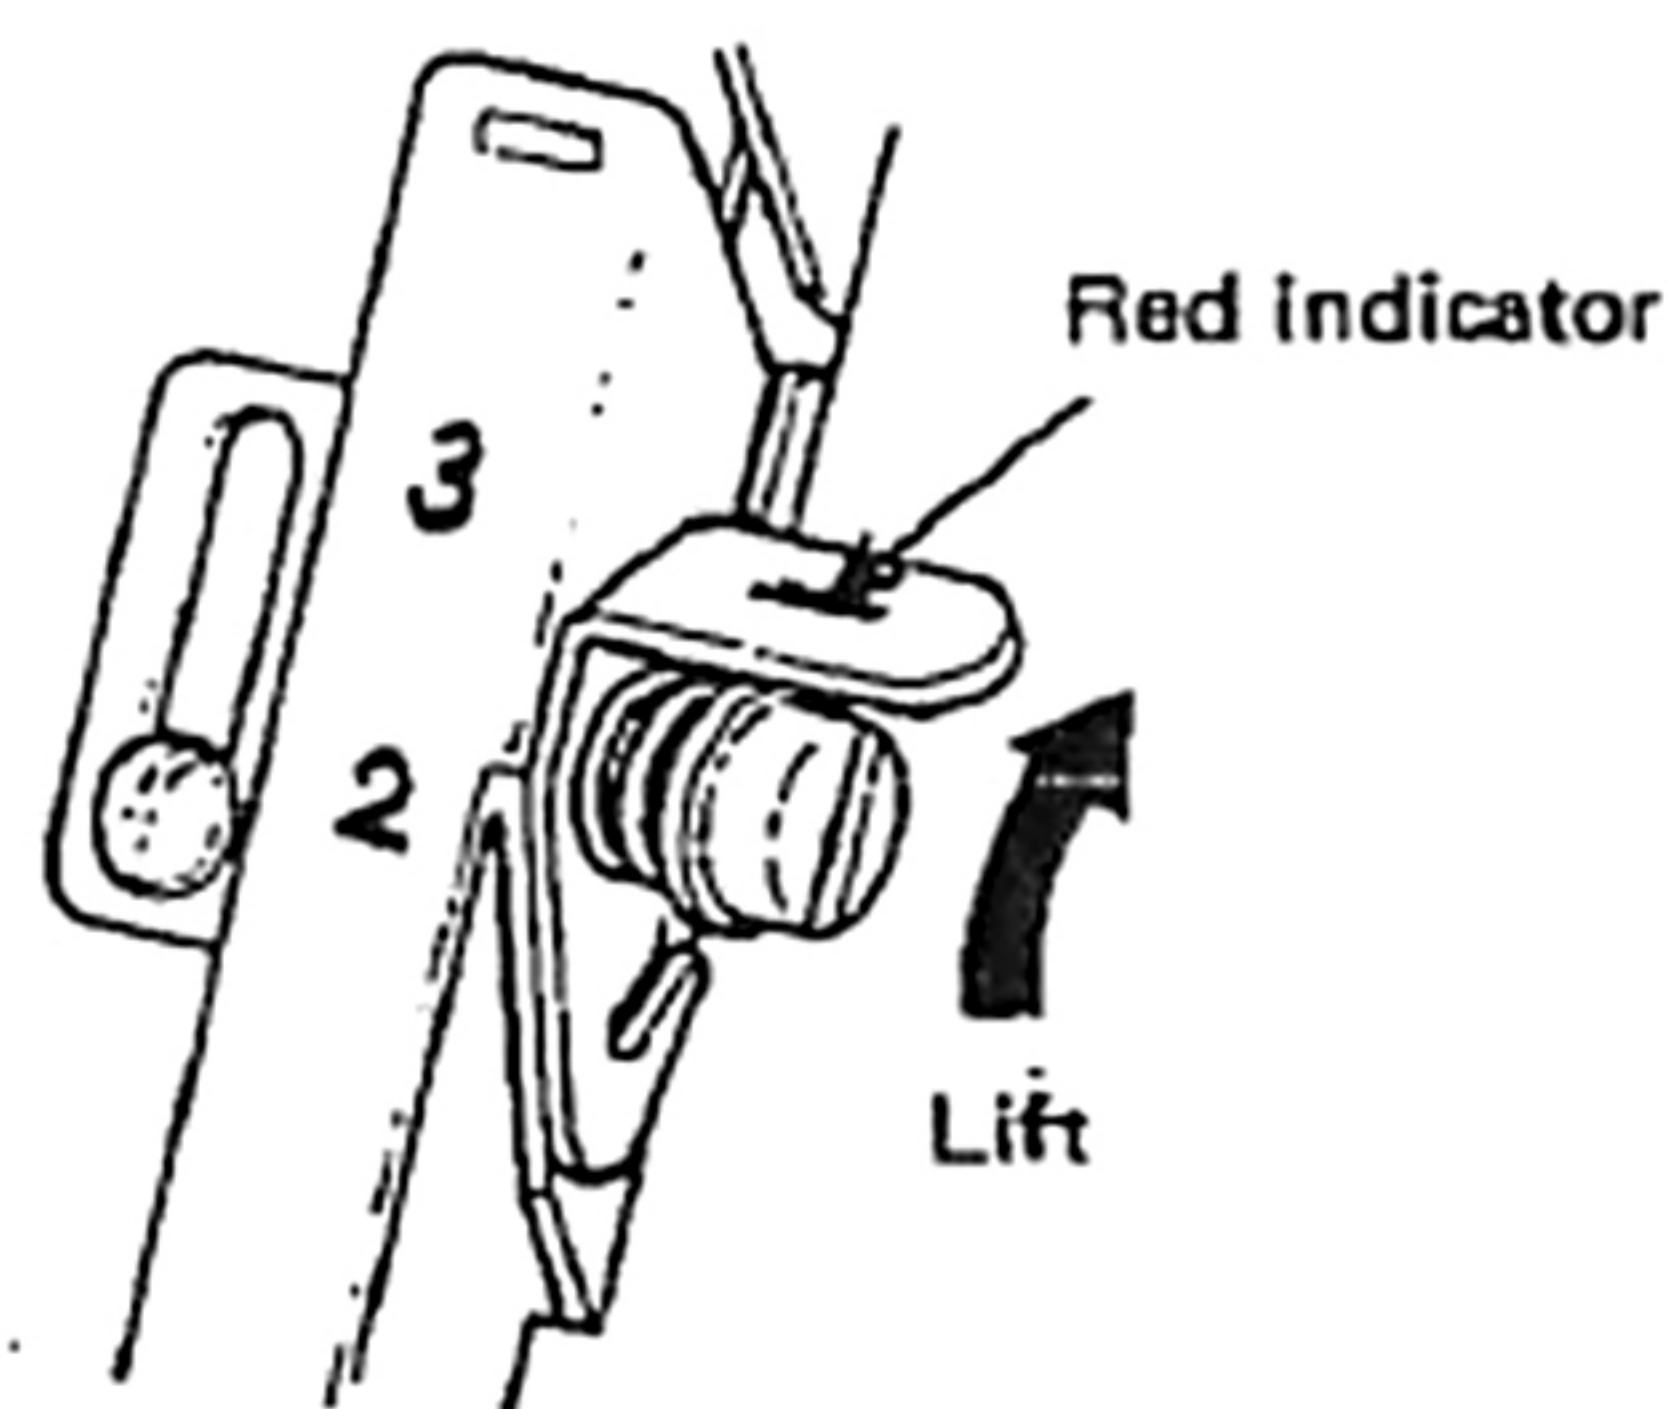

Figure 44
5. Move the thread guide switch up from red "2" to blue "3" aligning pink mark on switch with the blue "3" (Figure 44).